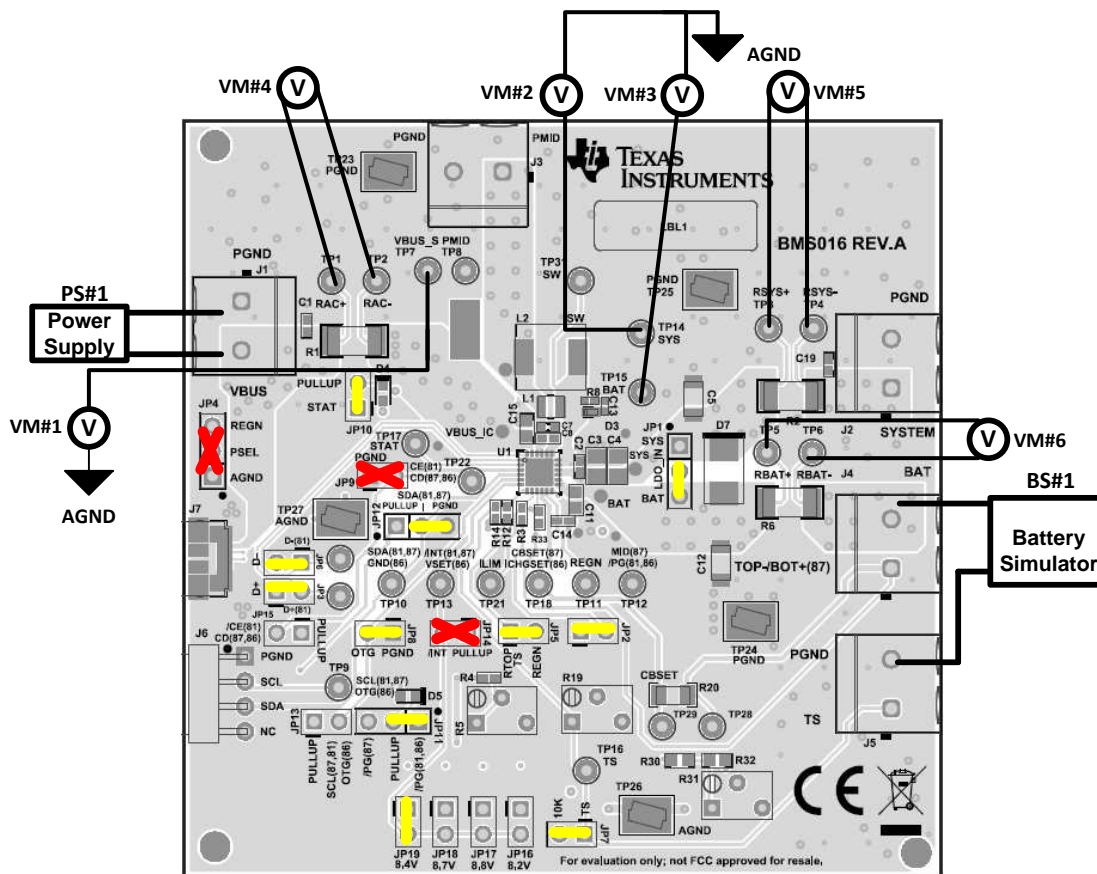

Figure 1. BQ25886 Charge Mode Test Setup
1. Figure 1 shows the test setup for BQ25886 when in charge (boosting) mode including jumper settings per Table 2. Ensure that the power supply and battery simulator are turned off before connecting to the EVM.